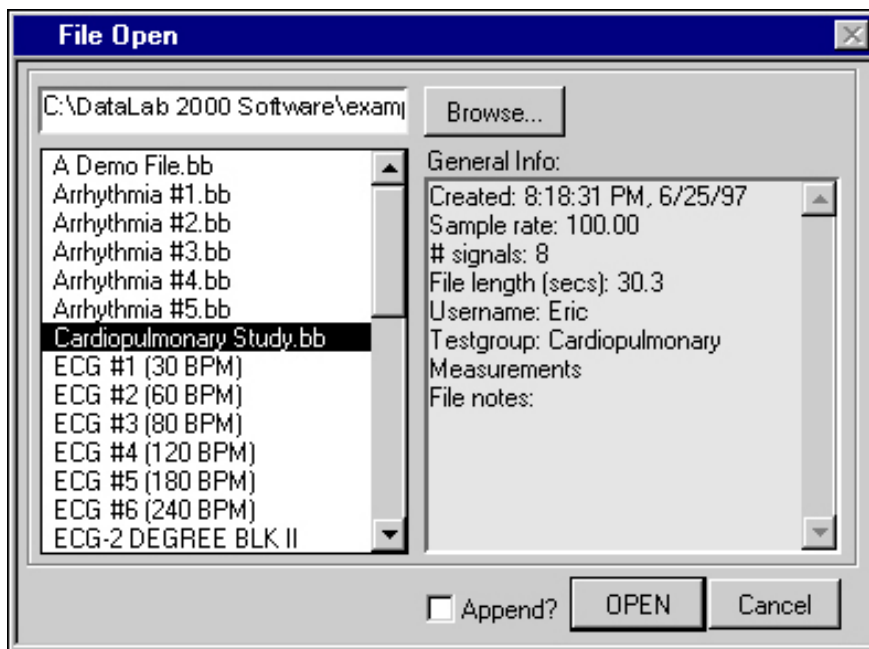

Figure B-20. File Open Dialog Box
2. Select **File»Open** and open the example data file called Cardiopulmonary Study. (You may need to use the **Browse** button to navigate to the `\datalab2000software\examples` directory.) This file contains the ventilator and lung pressure signals. Figure B-20 illustrates this step in the File Open dialog box.